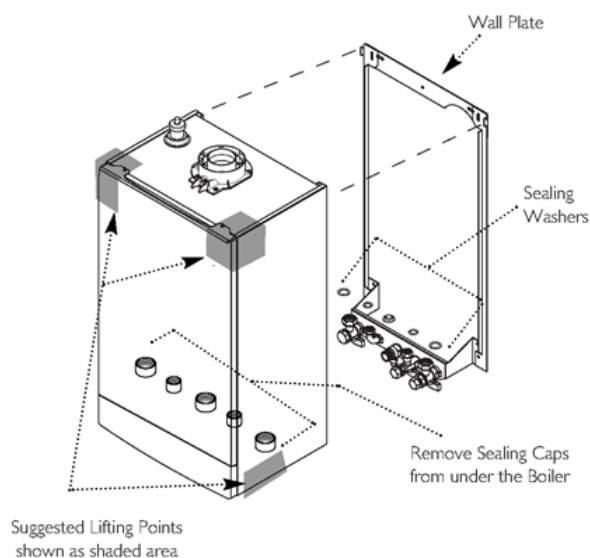

Fig. 43
1. Lift the boiler using the Lifting Points as shown by the shaded areas (Fig.43). The boiler should be lifted by TWO PEOPLE. Engage the slots at the top rear of the boiler on the wall plate (Fig.43) (see Safe Manual Handling).
2. Ease the boiler forwards and remove the sealing caps from the boiler connections (Fig.43).